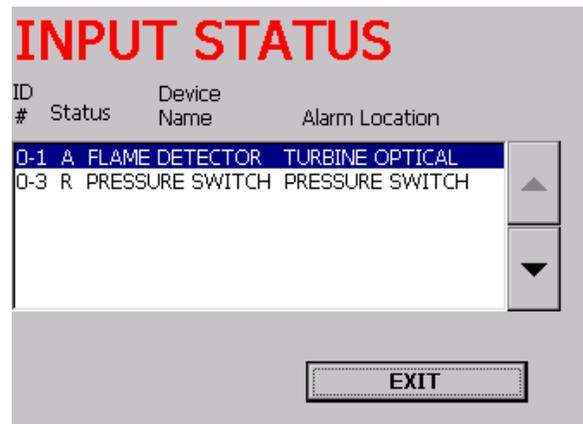

FIGURE 16.4 Input status menu indicating two alarm inputs from the configuration named “Dual Release”.
16.11 FIRE ALARM MENU ITEMS (FIGURE 16.4)
□ Figure 16.4 indicates when the first timer expired. If the pressure switch does not change state within 7 seconds, the second time is truncated and the reserve tank trips. In this example, the pressure switch is connected to node ID #0, channel 3, figure 9, and is activated shortly after the first timer expires. At this point in time, this action is recorded as a second alarm input. The reserve timer will continue to countdown until T=0 and the second tank trips.